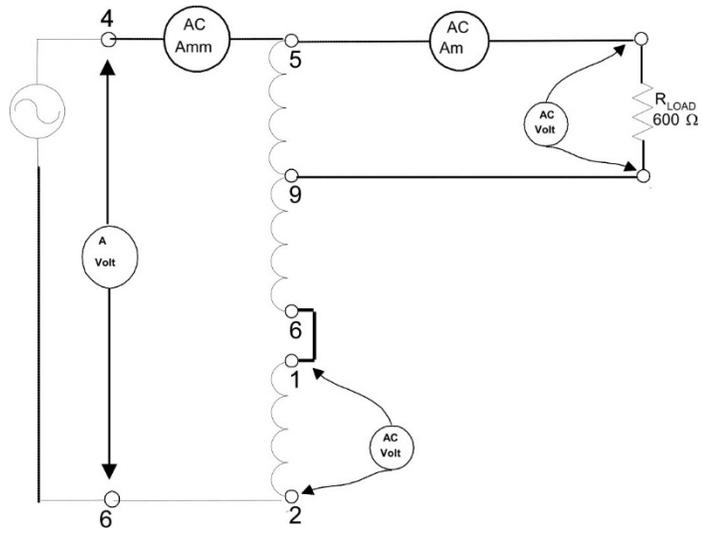

FIGURE 4. 25
Step 4: Connect the instrumentation to measure the power, voltage and current in the circuit as in Figure 4. 21. THE INPUT VOLTAGE MUST BE ADJUSTED TO **150 V** SINCE THIS IS THE MAXIMUM RATED VOLTAGE AT THE WATTMETER.